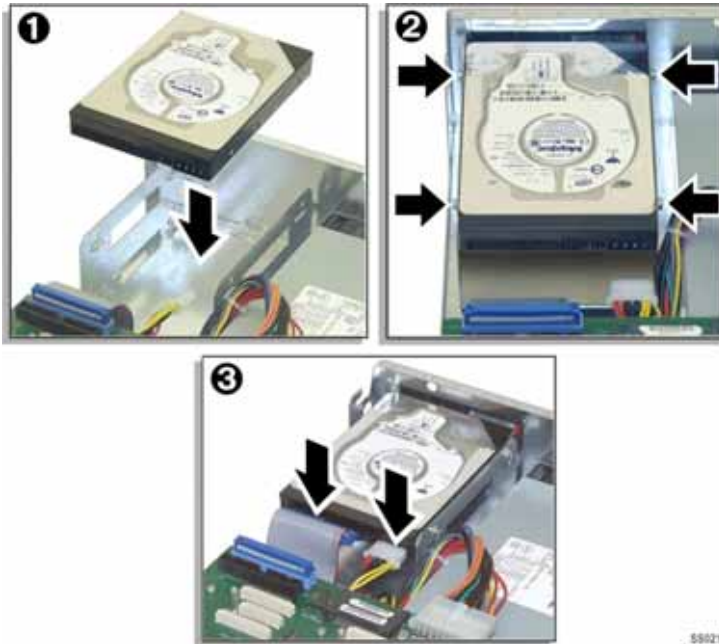

Figure 72: CX Controller Hard Drive Installation
4. Replace the drive with the new one (1) (see Figure 72 on page 206) and secure it to the bracket (2). (If the bracket was removed, re-install it and secure it to the back of the controller.) Ensure that the jumpers on the new drive are set to the Master setting.
5. Connect the power and IDE cables (ribbon cable) to the corresponding connectors on the hard drive and main board (3). The cables are keyed for proper connection.
Tip: There are two ribbon cable connectors side by side (shown in black and blue in Figure 72 on page 206). Ensure that you connect the ribbon cable to the connector **nearest** the hard drive. It is shown in blue in the figure.